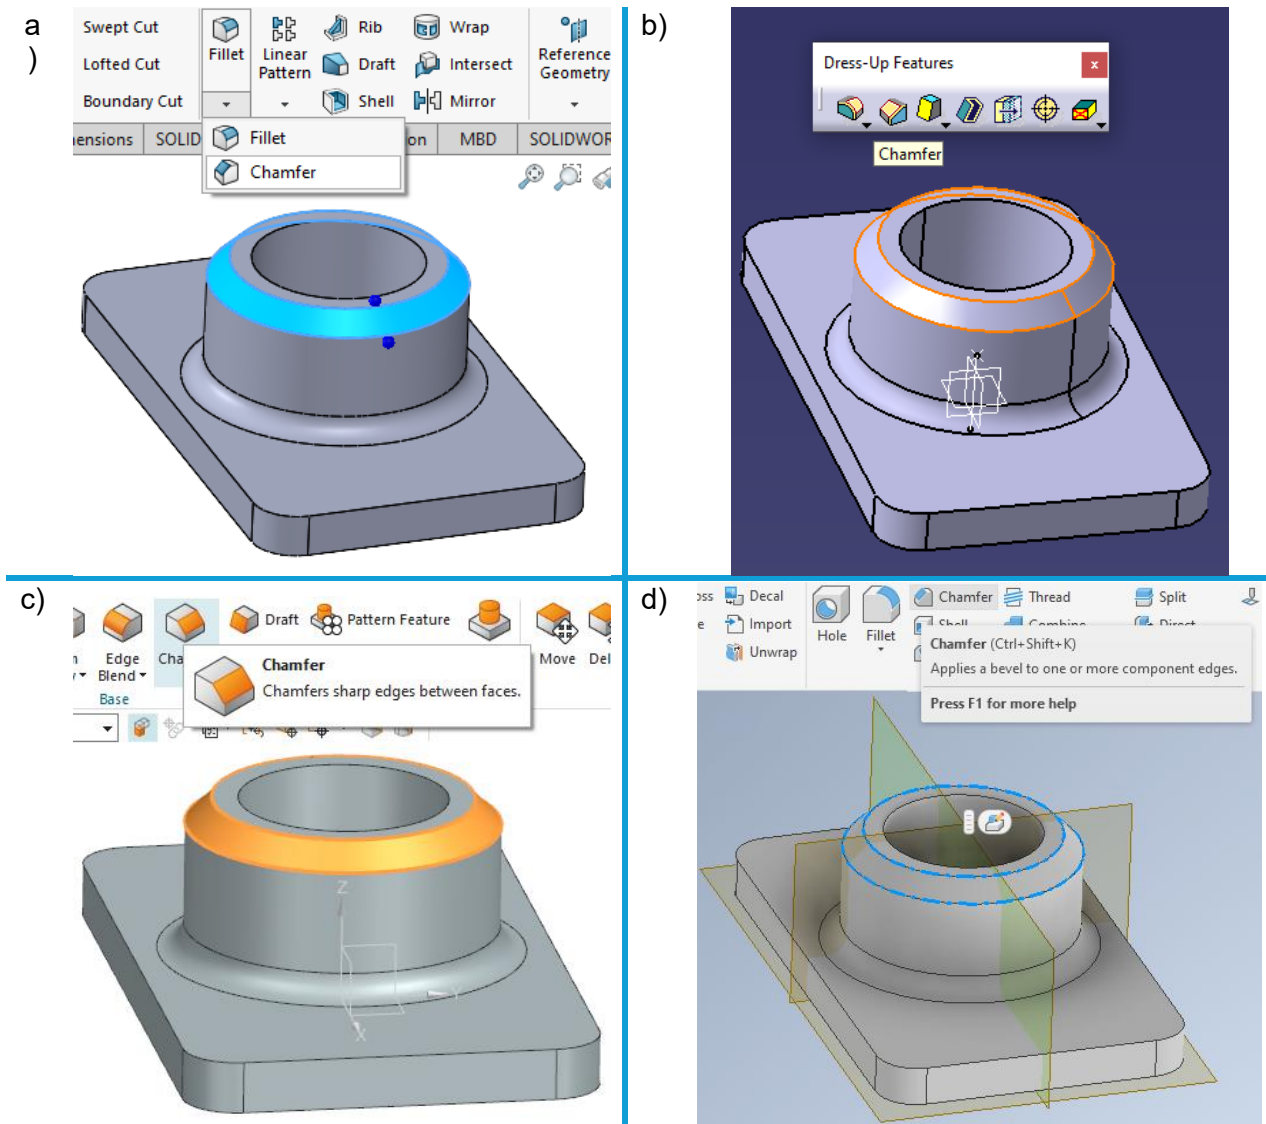

Fig. 9. Chamfer feature of the part in: a) SolidWorks, b) Catia, c) Siemens NX, d) Inventor
- Guide students through applies a bevel to one or more component edges, similar to Fig. 9.